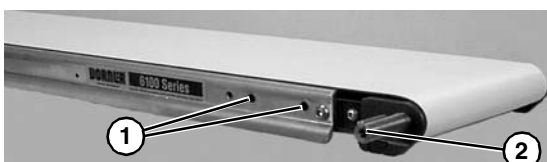

Figure 19
- Locate drive output shaft. Remove two screws (**Figure 19, item 1**). Install key (**Figure 19, item 2**).